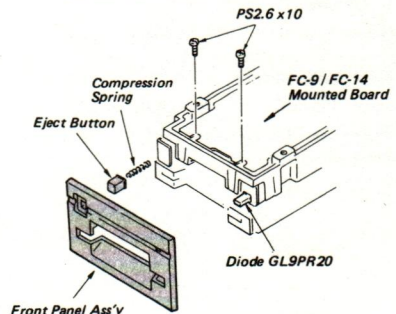

Fig. 4-2 Front Panel Ass'y Replacement
- Remove the two screws (PS2.6 x 10) from the bottom of the chassis ass'y and then remove the front panel ass'y. (Refer to Fig. 4-2)
- Fasten the chassis ass'y to the front panel ass'y on the bottom surface with the two screws (PS2.6 x 10). (Refer to Fig. 4-2)